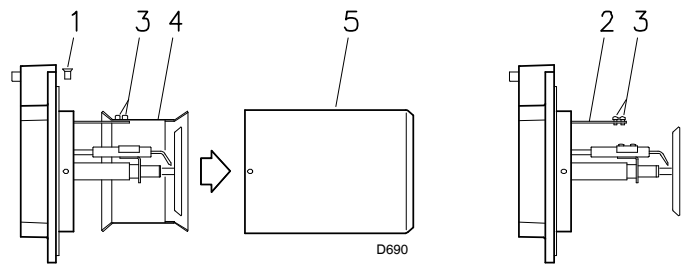

Fig. 12
- Unscrew the screws 1)(Fig. 12) and disassemble the blast tube 5).